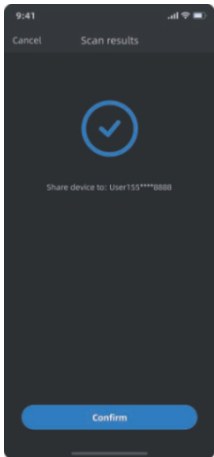

Figure3
- 3)Figure 3: When there is only one device under your name, click **"Confirm"** to complete the sharing;If it fails, you can follow the prompts to share again.